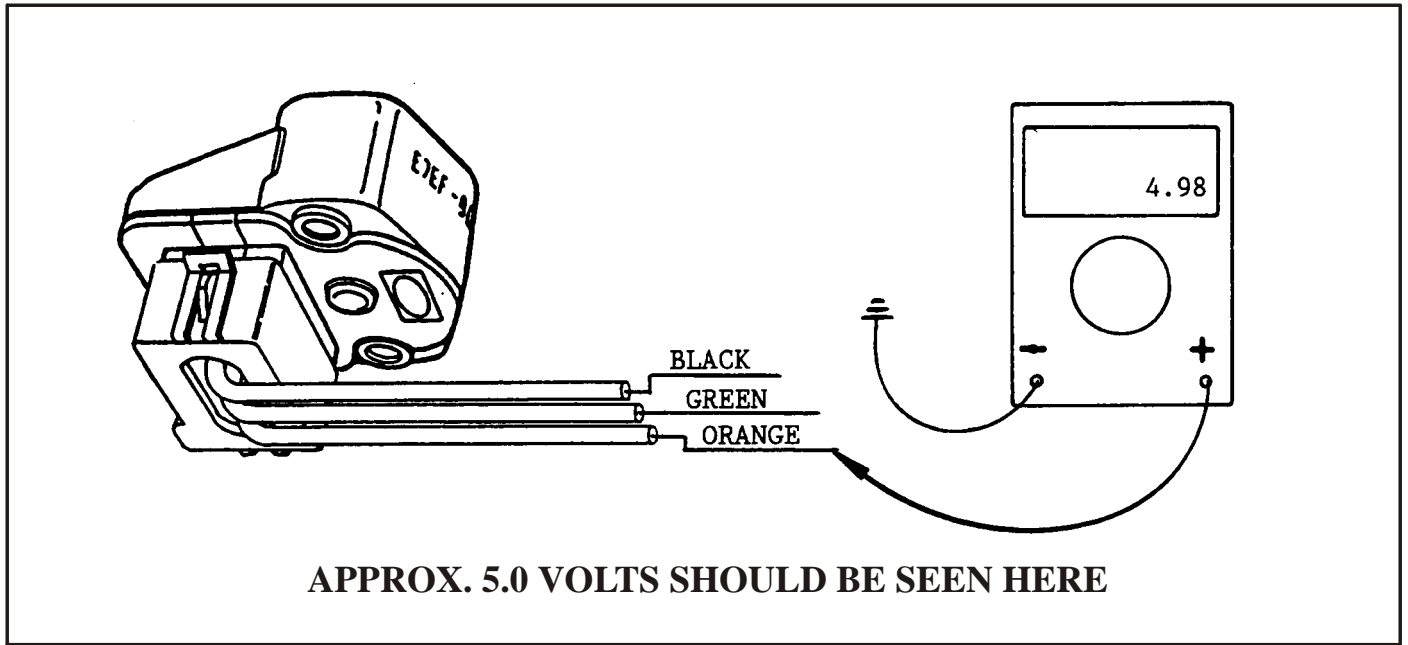

Figure 2
2. With your Volt/Ohmmeter set to DC volts, and the key ON position, back probe the Orange wire from the FIPL sensor with the Red lead from your Volt/Ohmmeter, and the Black lead from your Volt/Ohmmeter to a good ground (See Figure 2). Approximately 5.0 volts should be seen here, as shown in Figure 2.